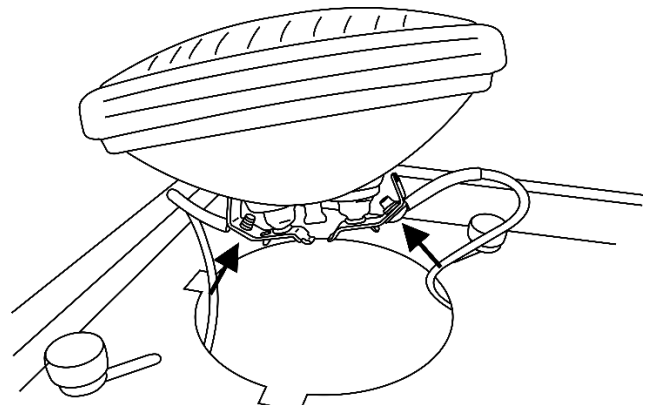

Fig. 06
- 06) Take the 2 cables and by using the screws, fit them to the back of the lamp. Put the lamp in the housing (Fig. 06).